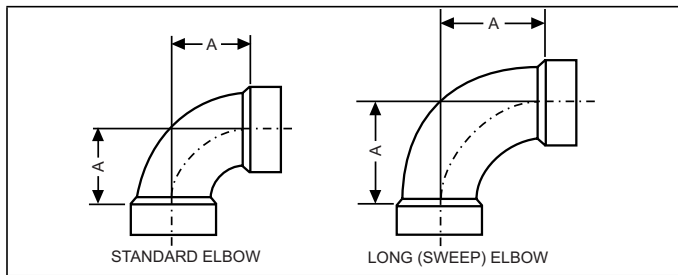

Figure 18: Elbow Dimensions
- Drain, waste, and vent (DWV) elbows with a long radius (sweep) are recommended. Standard DWV elbows can be used, but because they have a longer equivalent length, they reduce the total length of pipe that is allowed. Short radius (plumbing or pressure) elbows are not allowed for venting. The standard dimensions of the acceptable elbows are shown in Figure 18.
Elbow	A Dimension (Illustrated in Figure 18)